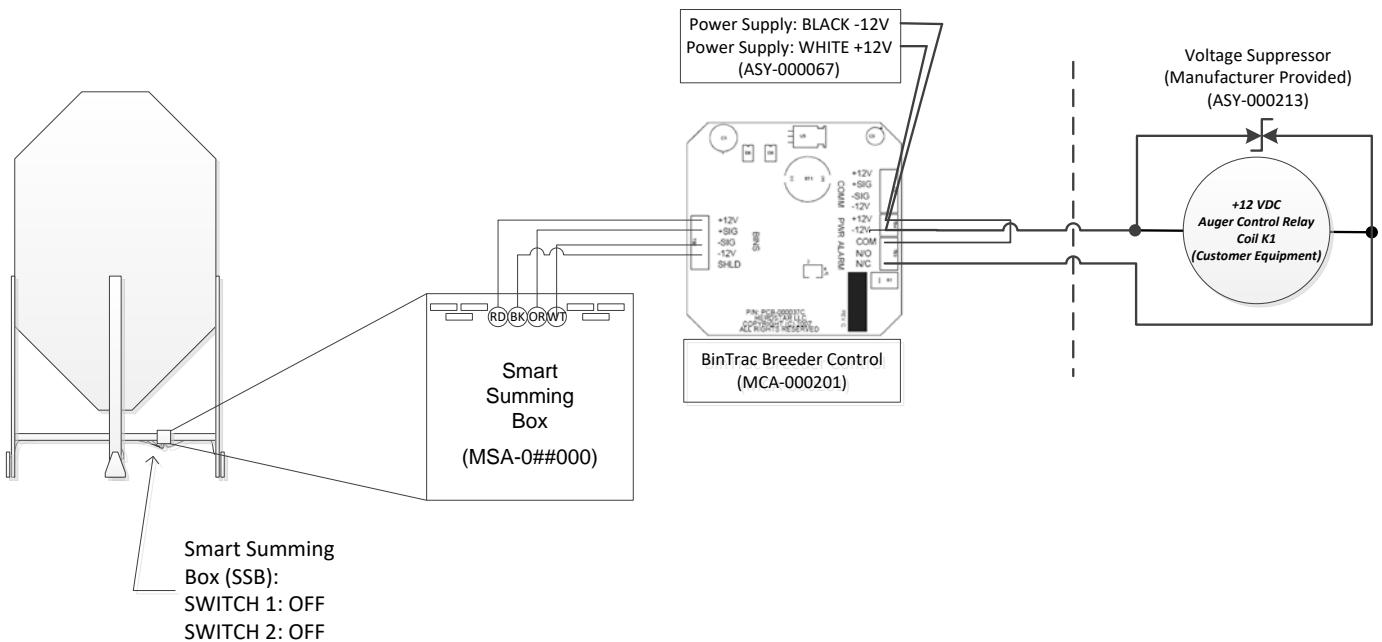

Figure 10
33. After wiring the Smart Summing box to the BinTrac Breeder Control Indicator, you will then wire the Auger Relay to the BinTrac Breeder Control Indicator as shown below. A voltage suppressor is provided and is to be connected between the Auger Relay coil and the indicator. It is highly recommended that an auto/manual override switch be installed as well. The auto/manual override switch is not provided by the manufacturer. (Figure 10)